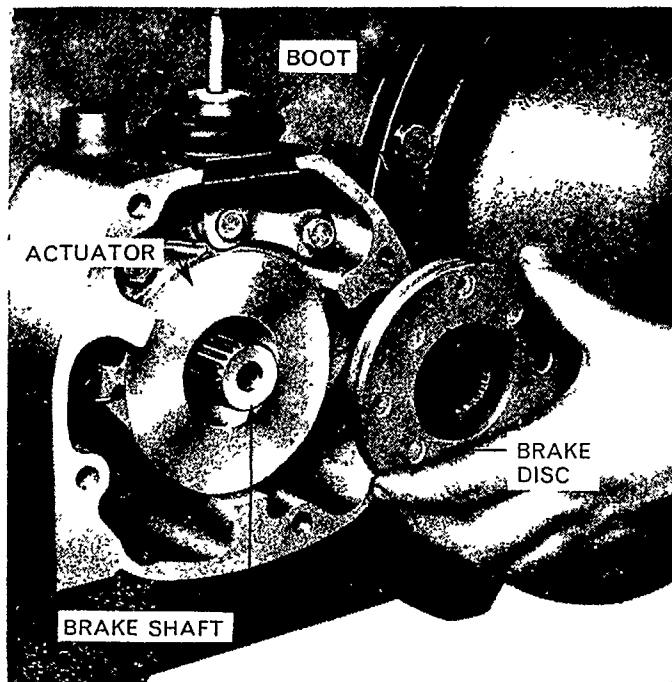

Figure 72
4. Remove the outer friction disc, actuating plate assembly (with rubber boot) and inner friction disc, Figure 72.